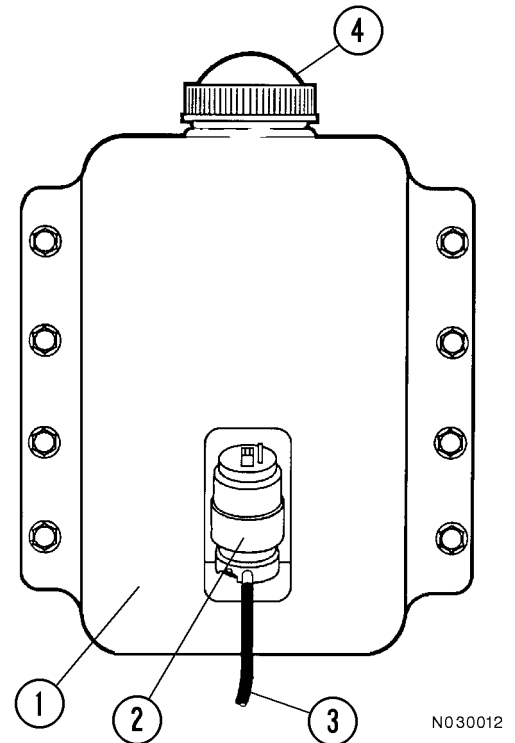

FIGURE 3-4. WINDSHIELD WASHER FLUID RESERVOIR AND PUMP
The windshield washer, mounted on the right side of the hydraulic components cabinet behind the cab, has a 3.8 liter (1 gal) plastic reservoir (1, Figure 3-4) with a 24 volt electric pump (2).